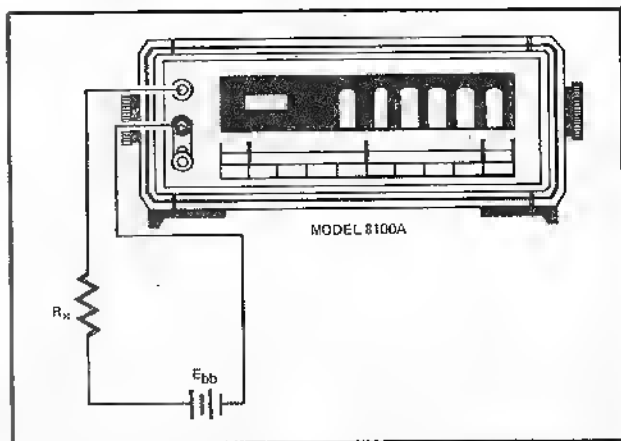

Figure 2-3. CIRCUIT CONNECTIONS FOR MEASUREMENT OF HIGH RESISTANCES
- a. Measure and record the external voltage, E_{bb} ; then connect the equipment as shown in Figure 2-3.